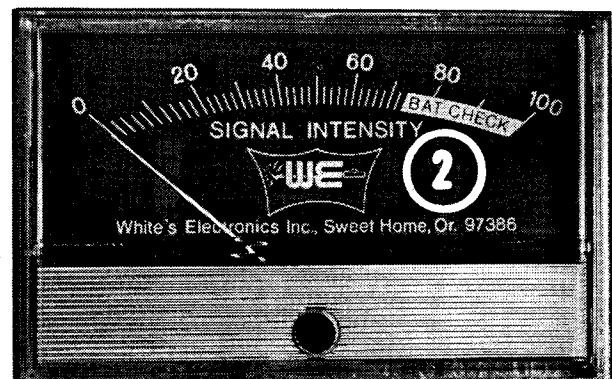

Figure 10
Condition of batteries may be tested at any time by turning Power Switch (1) to either the "9" or "12" positions. In both positions the meter needle (Fig. 10) should go well into the BAT. CHECK zone (2). The "9" position of the Power Switch tests the nine-volt (black) battery pack and the "12" position tests the 12-volt (white) battery pack. IF THE METER NEEDLE DOES NOT COME ALL THE WAY UP TO THE "BAT. CHECK" ZONE WHEN THE COINMASTER SUPREME IS FIRST ASSEMBLED AFTER UNPACKING, THEN AT LEAST ONE BATTERY IN THAT BATTERY PACK IS PROBABLY INSTALLED BACKWARDS. In this case, remove the battery pack and check it by repeating step VIA.